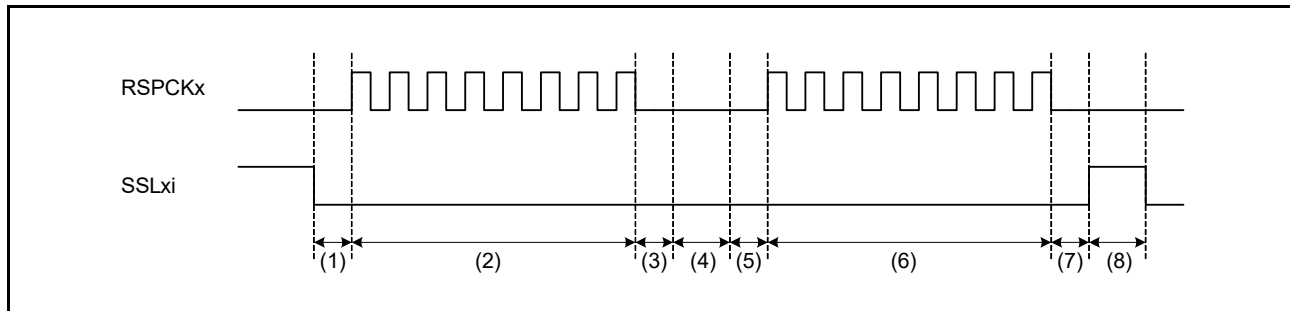

Figure 44.36 Example of Burst Transfer Operation Using SSLKP Bit (CPHA = 1, CPOL = 0)
Figure 44.36 shows an example of an SSLXi signal operation for the case where a burst transfer is implemented using SPCMD0 and SPCMD1 register settings. The text below explains the RSPI operations (1) to (7) as shown in Figure 44.36. It should be noted that the polarity of the SSLXi output signal depends on the SSLP register settings.
- (1) Based on the SPCMD0 register, the RSPI asserts the SSLXi signal and inserts RSPCK delays.
- (2) The RSPI executes serial transfers according to the SPCMD0 register.
- (3) The RSPI inserts SSL negation delays.
- (4) Since the SPCMD0.SSLKP bit is 1, the RSPI keeps the SSLXi signal value on the SPCMD0 register. This period is sustained, at the shortest, for a period equal to the next-access delay of the SPCMD0 register. If the shift register is empty after the passage of a minimum period, this period is sustained until the transmit data is stored in the shift register for the next transfer.
- (5) Based on the SPCMD1 register, the RSPI inserts RSPCK delays.
- (6) The RSPI executes serial transfers according to the SPCMD1 register.
- (7) The RSPI inserts SSL negation delays.
- (8) Because the SPCMD1.SSLKP bit is 0, the RSPI negates the SSLXi signal. In addition, a next-access delay is inserted according to the SPCMD1 register.
If the SSLXi signal output settings in the SPCMDm register in which 1 is assigned to the SSLKP bit are different from the SSLXi signal output settings in the SPCMDm register to be used in the next transfer, the RSPI switches the SSLXi signal status to SSLXi signal assertion ((5) in Figure 44.36) corresponding to the command for the next transfer. Note that if such an SSLXi signal switching occurs, the slaves that drive the MISOx signal compete, and collision of signal levels may occur.